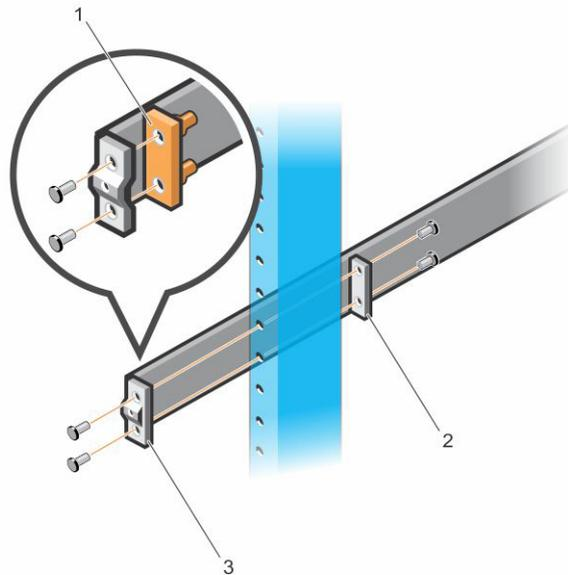

Figure 18. 2-Post Flush-Mount Configuration
1. For this configuration, remove the castings from the front side of each ReadyRails assembly. See item 1 in Figure 18. Use a Torx driver to remove the two screws from each front flange ear (on the switch side of the rail) and remove each casting. Retain the castings for future rack requirements. You need not remove the rear flange castings.
2. Attach one rail to the front post flange with two user-supplied screws. See item 2.
3. Slide the plunger bracket forward against the vertical post and secure the plunger bracket to the post flange with two user-supplied screws. See item 3.